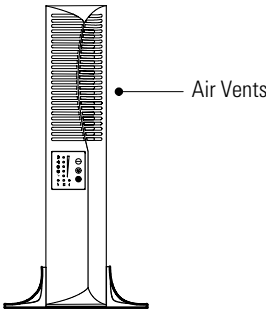

Figure 8. Pedestals with One Cabinet
- 4. Carefully position the cabinet upright with the air vents at the top (see Figure 8).